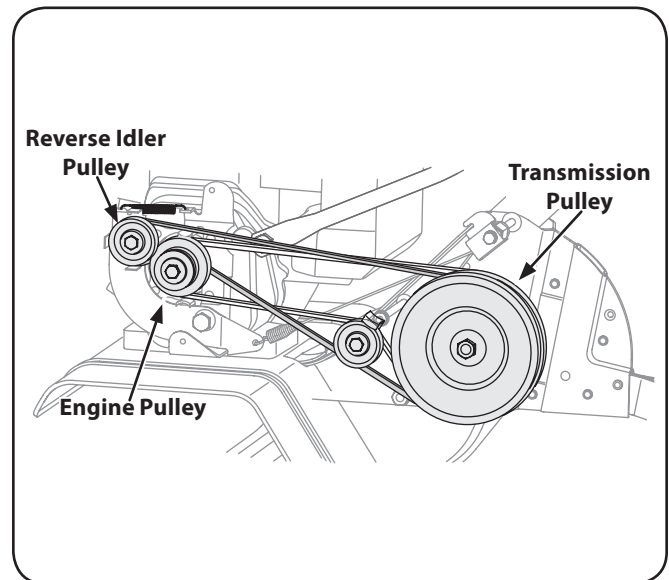

Figure 5-2
3. Remove the belt from the transmission pulley and then from around the reverse idler pulley. See Figure 5-2.
4. To reassemble the new belt, follow the instructions in reverse order. Be sure to place the wider side of the belt against the transmission and the idler pulley while the slimmer side goes over the engine pulley. See Figure 5-2.
NOTE: Upon reassembly, make certain the belt is routed over the idler pulley and inside of the belt keepers by the engine pulley. See Figure 5-2.